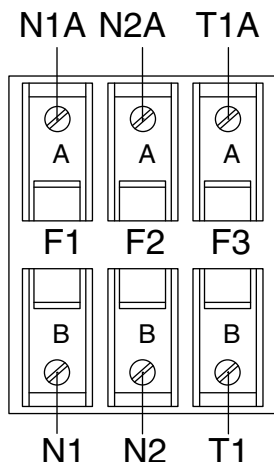

Figure 129. Transfer Switch Fuse Block
- Remove fuse F1 and F2 from the fuse holder. (see Figure 129).